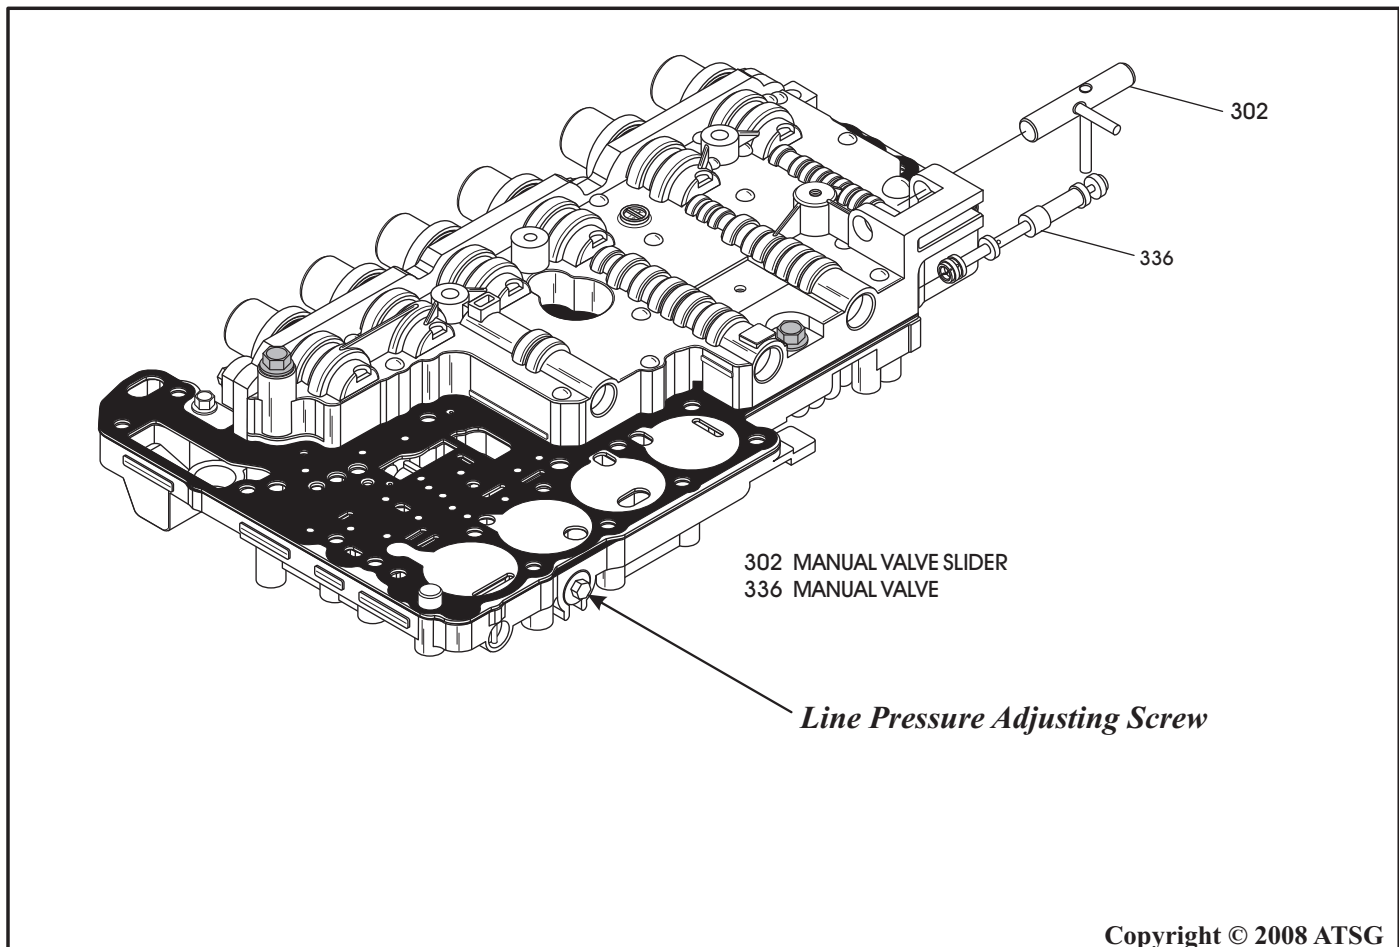

Figure 26
3. Turn the adjusting screw shown in Figure 26 to adjust line pressure to the nominal value. The pressure increases when the screw is turned counter-clockwise.